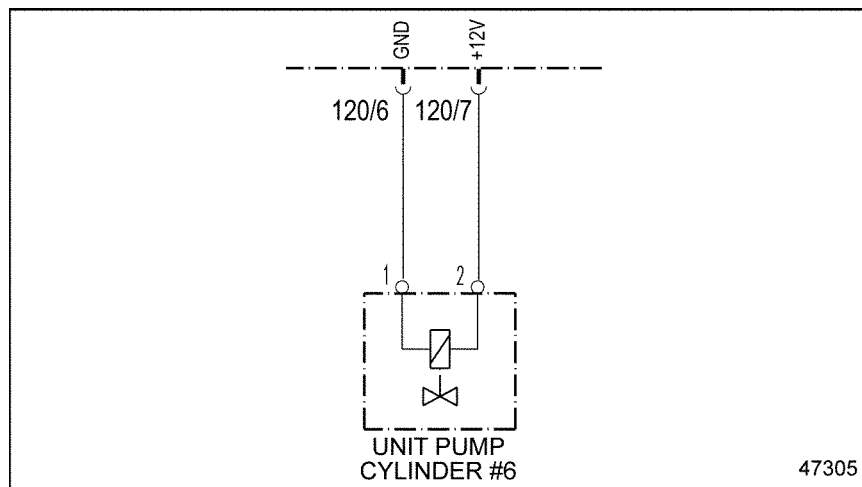

Figure 50-1 Electronic Unit Pump #6
2. Measure the voltage between pins 1 and 2 of Electronic Unit Pump #6. See Figure 50-1.